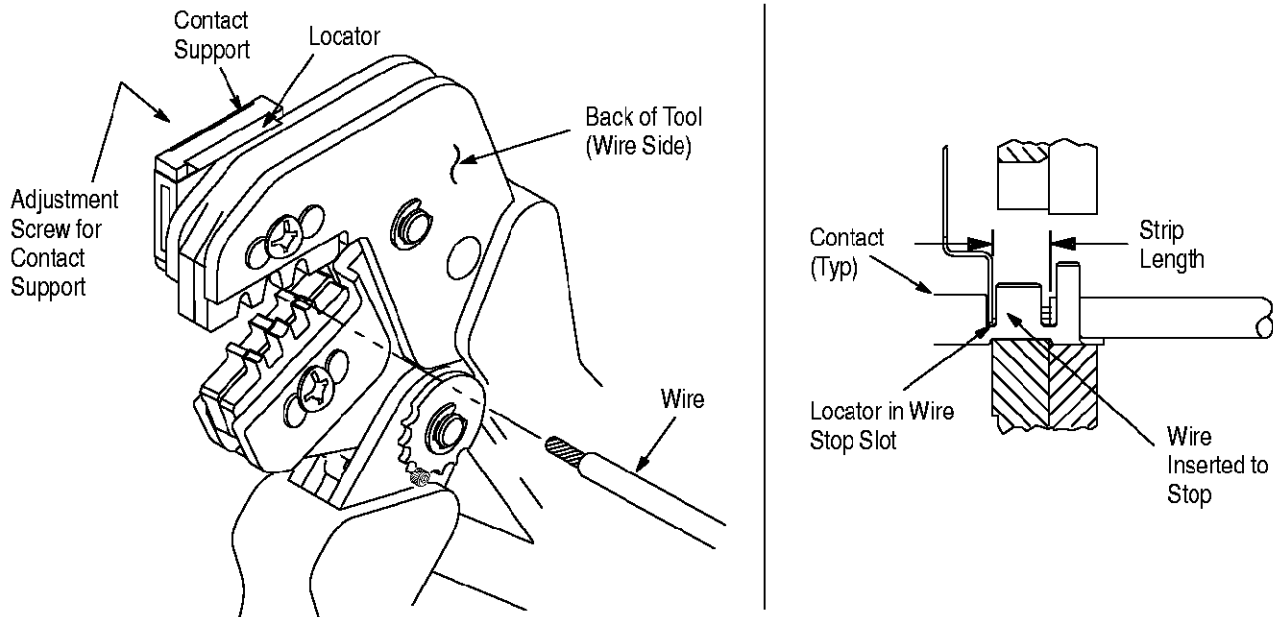

Figure 3
**4. CONTACT SUPPORT ADJUSTMENT** (Figure 3)
Refer to the table in Figure 1 and select wire of the specified size and insulation diameter. Strip the wire to the length indicated in Figure 1, taking care not to nick or cut wire strands. Select an applicable contact and identify the appropriate crimp section according to the wire size markings on the tool. Refer to Figure 3 and proceed as follows:
3. Position the contact so that the mating end of the contact is on the locator side of the tool, and so that the open “U” of the wire and insulation barrels face the top of the tool. Place the contact up into the nest so that the movable locator drops into the slot in the contact. Refer to Figure 3. Butt the front end of the wire barrel against the movable locator.